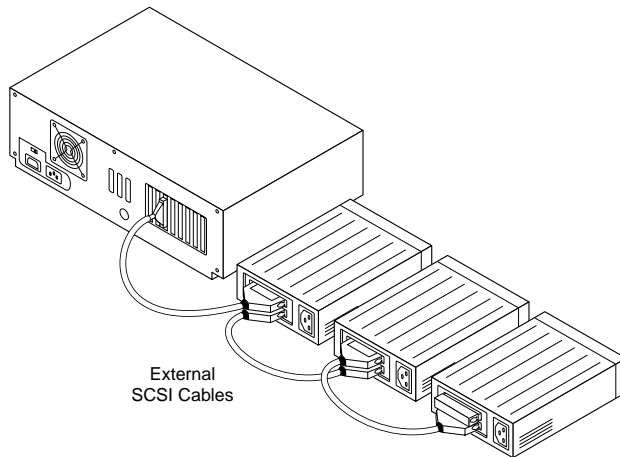

Figure 5-9. Daisy Chaining External SCSI Devices
- 3 To connect other external SCSI devices, daisy chain each device to the previous device until all external SCSI devices have been connected, as shown in Figure 5-9.